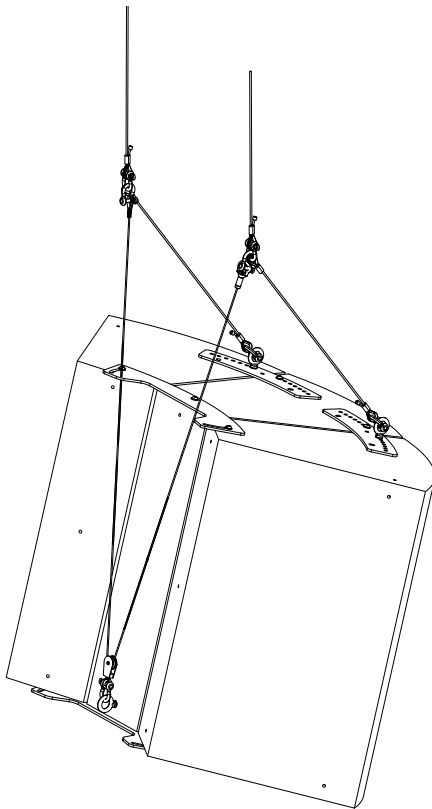

Figure 3
**For steeper angles, install the M10 x 35mm long eyebolt on the bottom rear of the center speaker. This will be used for the pull back (Figure 3).**
Use the two front M10 eyebolts from the front joiner plates as the main speaker suspension points. Use the back eyebolt as a pullback point to adjust the tilt angle of the speaker cluster (Figure 3).
**For steep angles, use eyebolt installed on the bottom rear of the center speaker as the pull back point to achieve the desired tilt angle (Figure 3).**